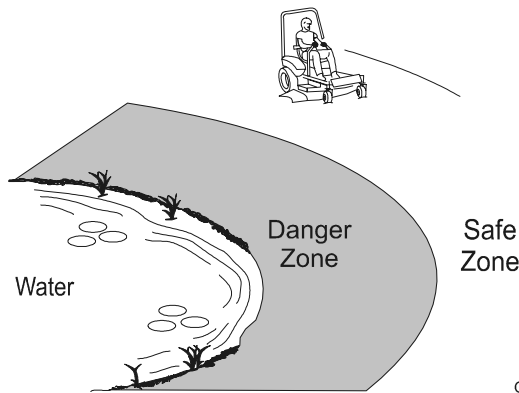

FIGURE 1
- Use a walk behind mower and/or a hand trimmer near drop-offs, ditches, steep banks or water. This area can be dangerous, see Figure 1.